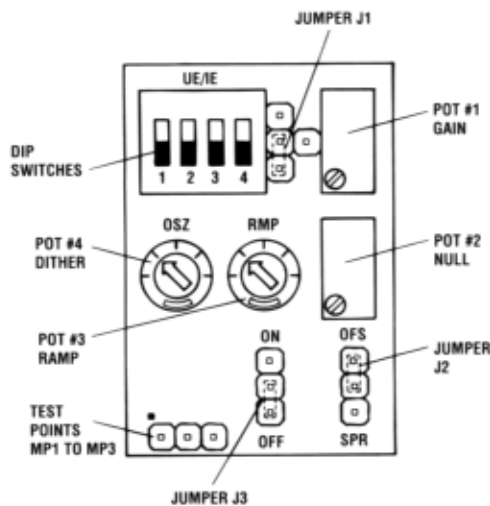

Figure 8. Adjustment Locations with Cover Removed
There are (4) trim pots beneath the amplifier top cover. They may be used to tailor the amplifier response to a particular application. See Figure 8.
Be certain that Jumper J1 is in the factory adjusted position shown in Figure 8. This limits solenoid current range to approximately 1600 mA.